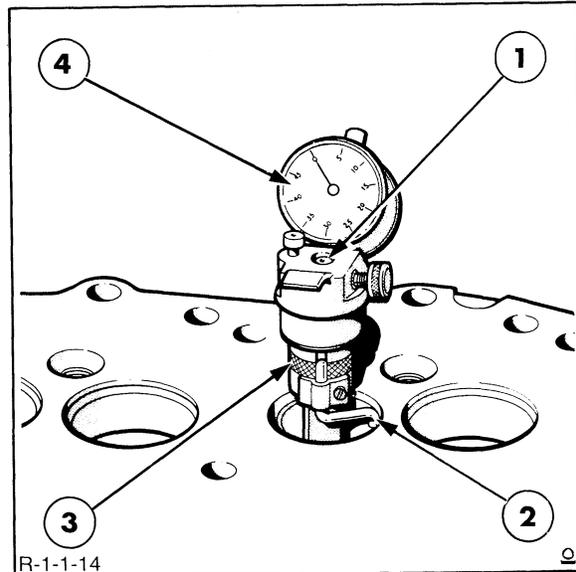

FIGURE 1-15
4. Measure the concentricity of the valve seat with a suitable gauge, as shown in Figure 1-15. If the valve seat runout exceed 0.0015" (0.038 mm) total indicator reading, reface the seat.